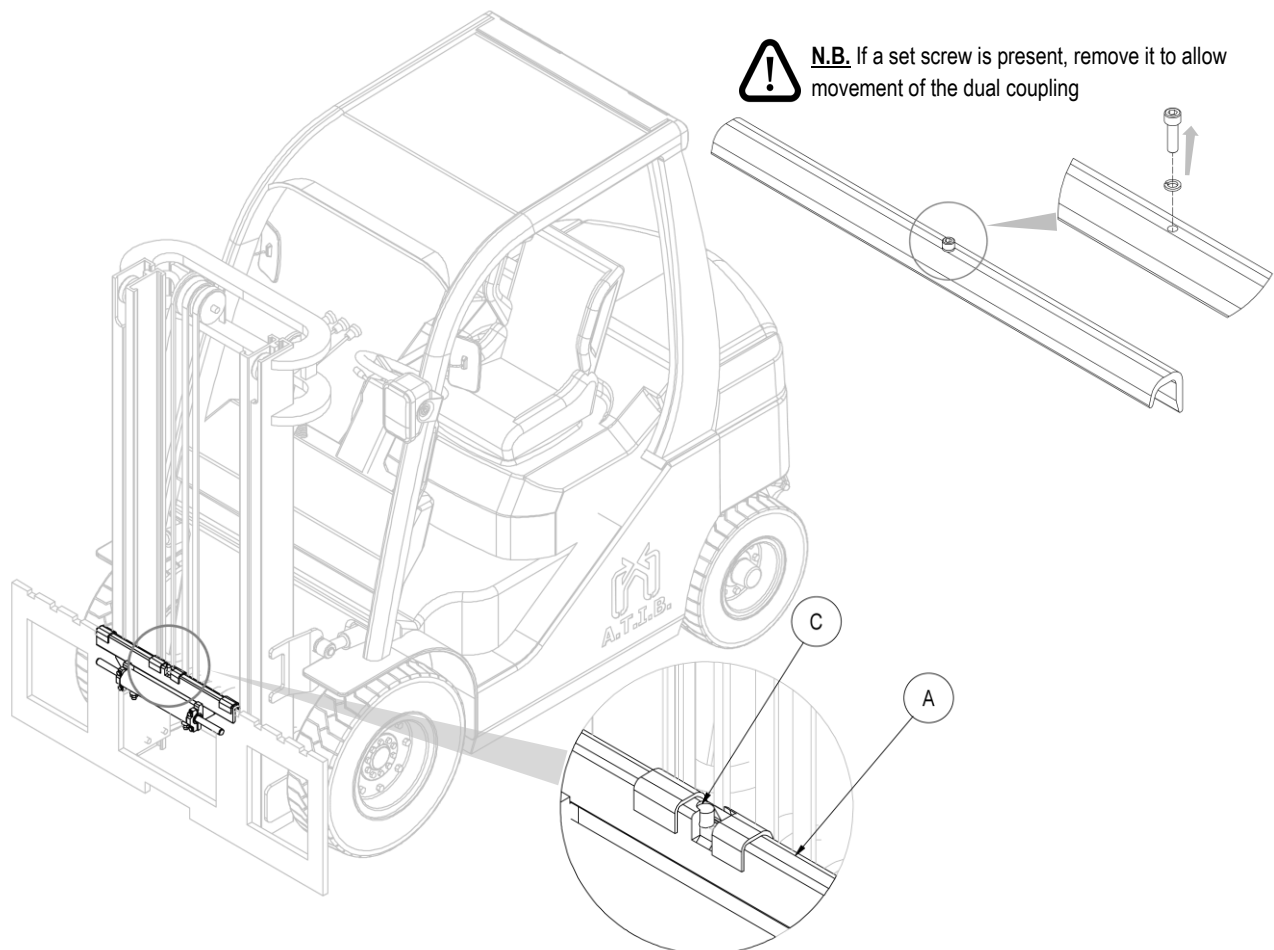

Figure 6
4. Manually obtain the dual coupling **A** (with its sliding bushes and sideshift cylinder), and position it on the upper profile of the fork carriage, taking care to fit the centring pin **C** into its central notch (see *Figure 6*).